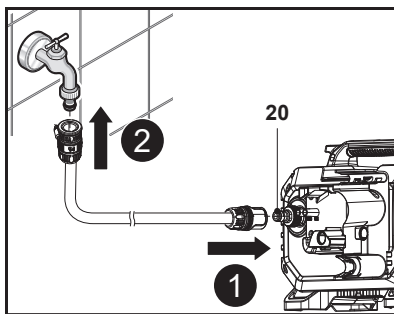

Fig. 7
2. Attach garden hose to the water inlet adaptor (20) on the water inlet connector (13) of the machine (Fig. 7, step 1). Always use a standard coupling for water inlet. The hose length cannot be greater than 8 m in length for proper operation.
3. Connect the other end of garden hose to a water supply (Fig. 7, step 2).